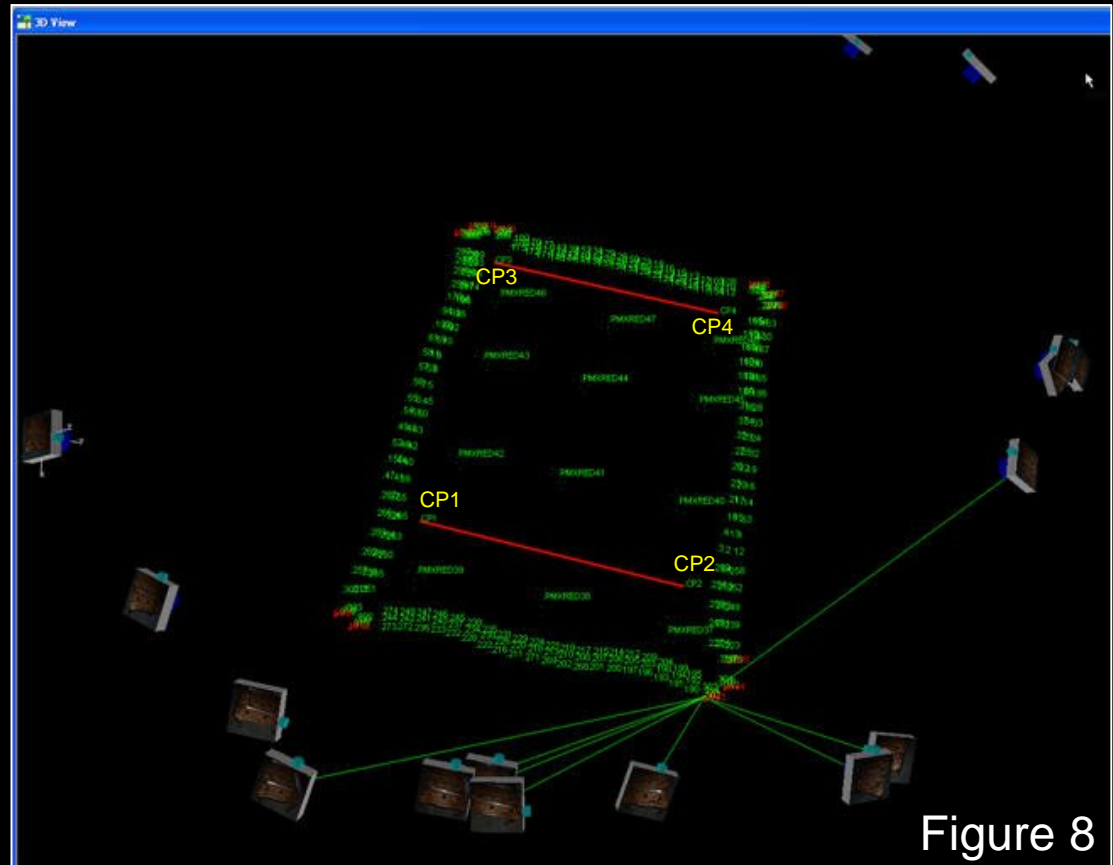

Figure 8
4. **Photograph the areas of the applied .15” triplets similar to Step 3** (one needs to acquire at least 5 good overlapping perspective camera angle shots). Figure 8 illustrates eight different camera observations on a randomly selected .15” Triplet Offset Target.
5. Complete the Step 4 work, however there is No Need to “Scale” or “3-2-1”. The only requirement is to **name the CP points the same as Step 4, item 5**.